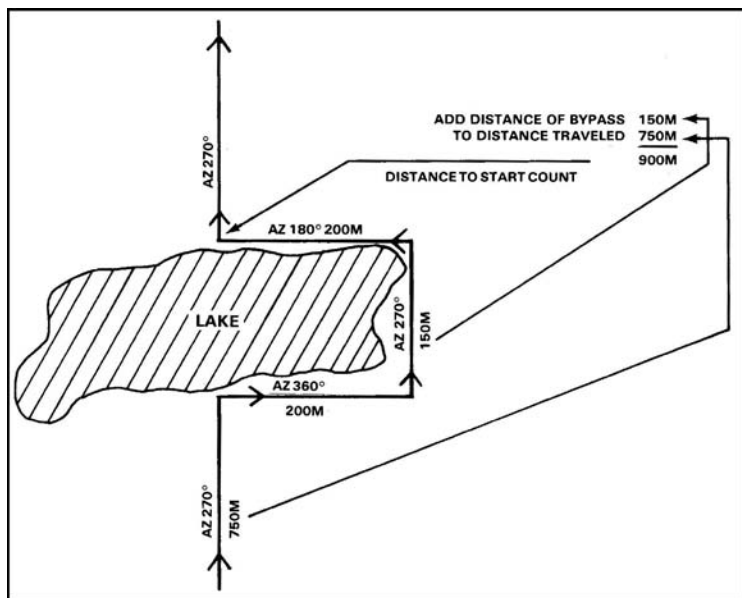

Figure 071-329-1006-6. Bypassing an obstacle
- e. If you should encounter an obstacle, you might have to detour around it (figure 071-329-1006-6). To do this, complete a series of 90-degree turns until you bypass the obstacle and return to your original azimuth.